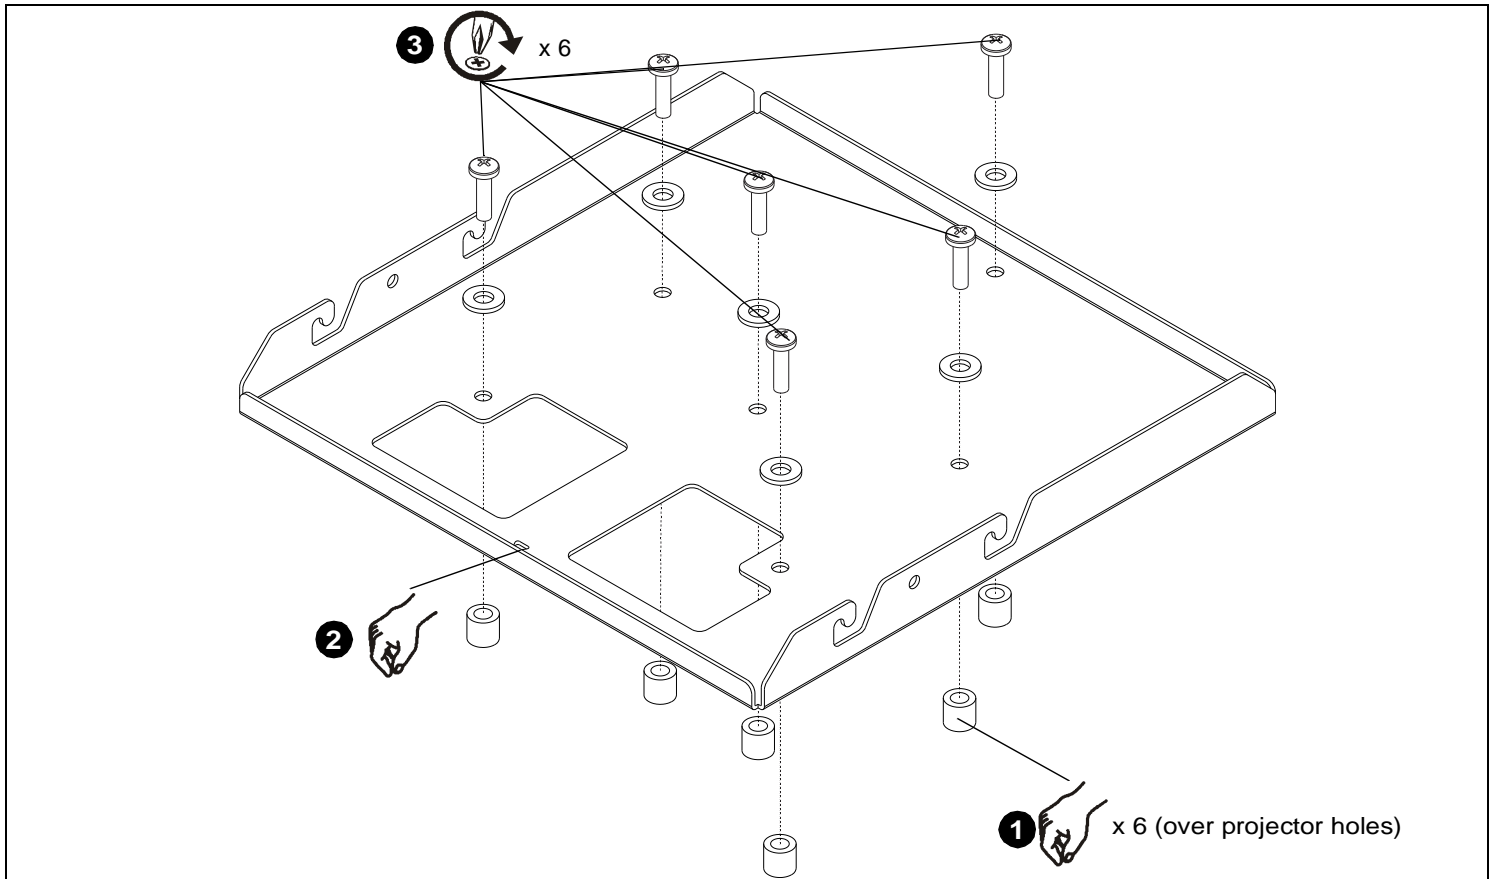

Figure 1
1. Place six spacers on top of six holes on top of projectors. (See Figure 1)
2. Lower custom HB bracket onto top of projector. Ensure that triangle in bracket points toward front of projector. (See Figure 1)
3. Attach HB bracket to projector using six M8 x 30mm Phillips pan head screws through four holes in the HB bracket and four spacers. (See Figure 1)